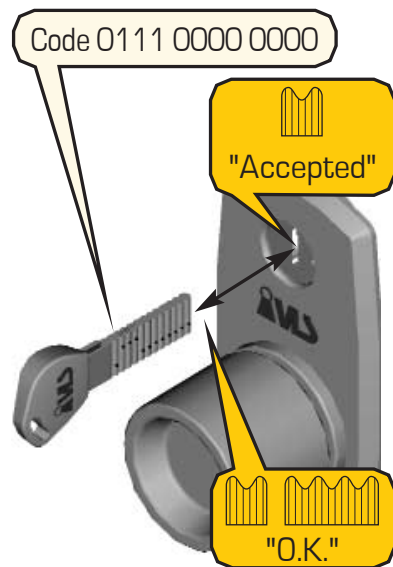

Figure 28 – Programming
2. In order to delete the operation code No. 2, set the deleting code 0111 0000 0000 on the key (fig. 28).